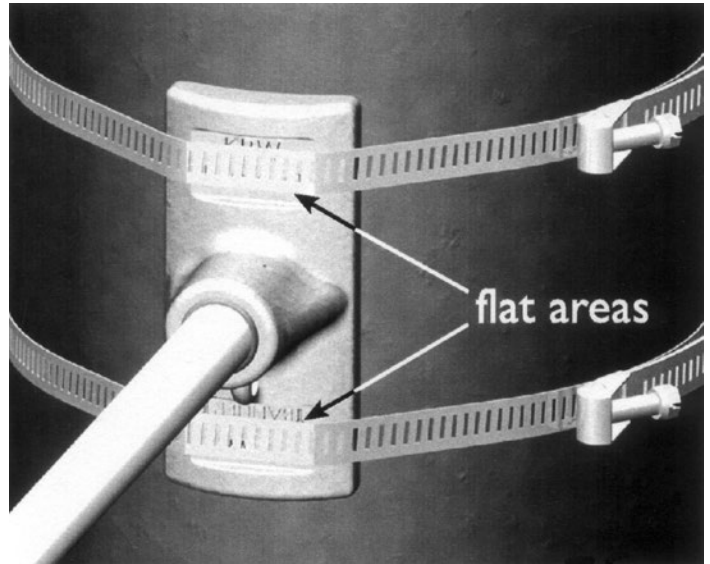

Figure 1
- ❶ Mark the utility pole at desired height.
- ❷ Install top arm first. Hold the casting up to the pole so that the word "BANNER" with arrows points **DOWN**. Wrap banding around pole at both the top part of the casting and the bottom part of the casting. Position the banding so that it goes over the flat areas on the casting. **See Figure 1.**
- ❸ Tighten the screw gear banding with a screwdriver. If using banding, tighten according to the instructions provided with the banding tool. The banding should be tightened down onto the flat areas on the casting and cover the words "BANNER" and "KBW".
- ❹ Slide banner (top hem) on arm. Slide banner on grommeted side first. Completely cover the metal sleeve at base of arm so banner is very close to the pole casting.
- ❺ Now you are ready to mount lower arm. Pull banner down to mark pole for location of bottom casting/arm assembly. Be sure that the word "BANNER" with arrows points **UP**. Mount bottom casting low enough to ensure that the banner will be held tight.